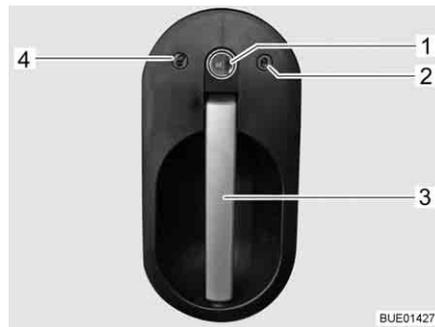

Fig. 54 Door lock of driver's door, outside
- Insert the key into the locking cylinder (Fig. 54,1) and turn towards "Open" (Fig. 54,4) until the door is unlocked.
- Pull on the handle (Fig. 54,3). The door is open.
- Insert the key into the locking cylinder (Fig. 54,1) and turn towards "Lock" (Fig. 54,2) until the door is locked.